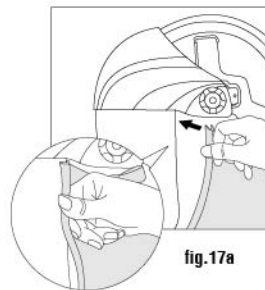

fig.17a
Step 1 : Insert the U-shaped sealing layering into the edge of face shield lens. Use the thumb to press the edge of sealing layering to make it fix into the face shield lens (See fig.17a).